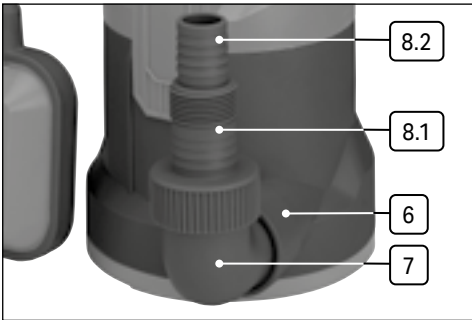
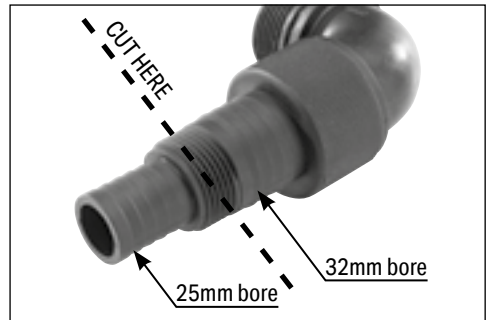

Fig. 1
Fig. 2
6.1 Fitting the Outlet Connector and Hose Adaptors (Fig.1 – Fig.2)
- Cut through the threaded section of the narrower end (Fig.2), then slide the hose onto the larger grip.